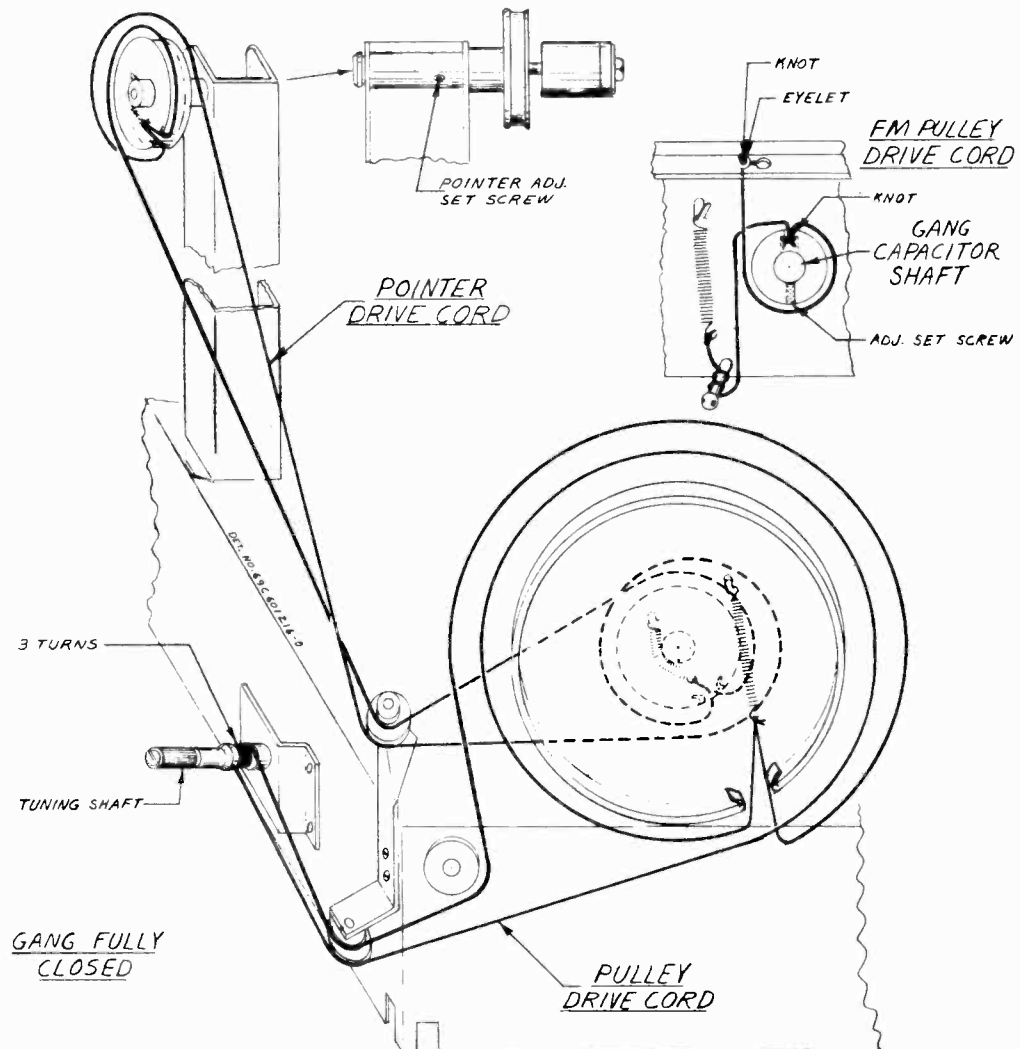

FIGURE 3. POINTER & DRIVE CORD RESTRAINING DETAIL
5. From the back of the cabinet, loosen the pointer adjustment setscrew (see Figure 3), and pull the pointer shaft assembly from the chassis. **CAUTION: Do not remove the nut from the front of the pointer, as the detent ball and spring will fall out and may become lost.**
2. From the back of the cabinet, loosen the pointer adjustment setscrew (see Figure 3). **CAUTION: Do not remove the nut from the front of the pointer.**